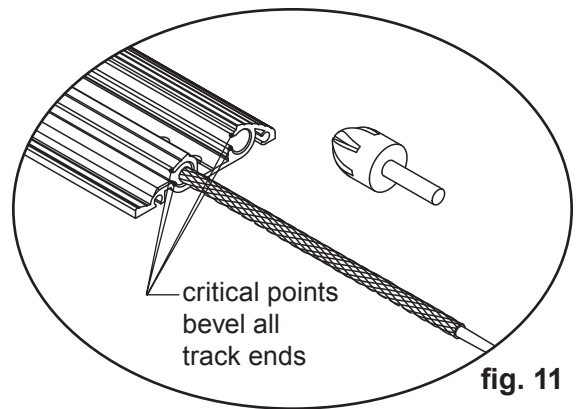

fig. 11
6.1 Bevel & de-burr track ends. (fig. 11)